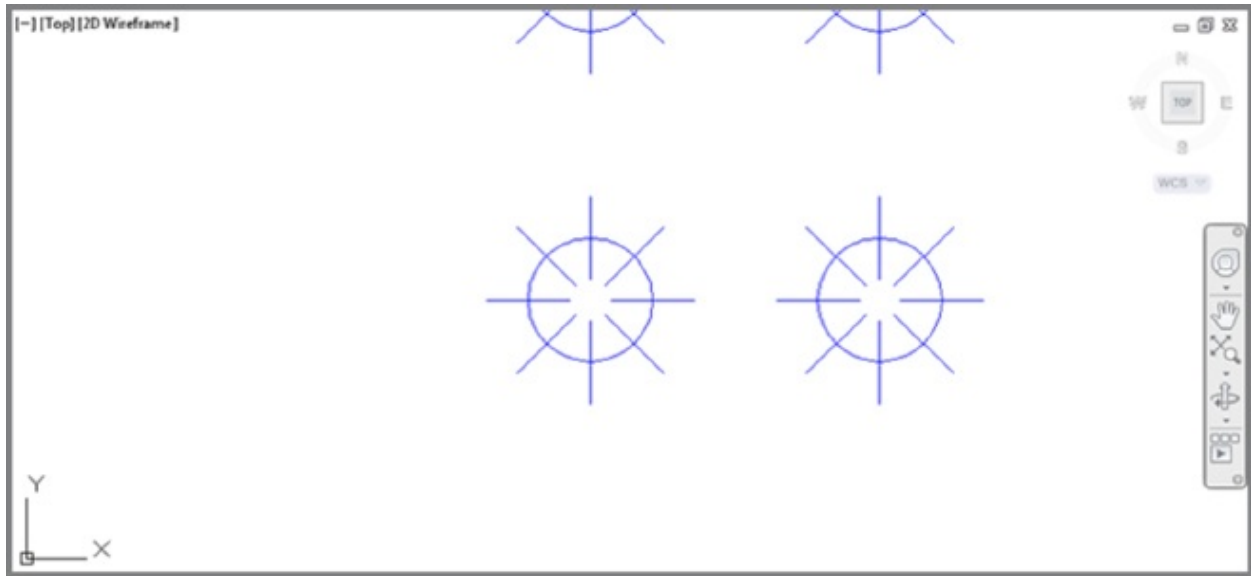

FIGURE 6.7 The burners arrayed
10. The array appears in the drawing, but a few of the array elements are off the top of the screen, as shown in Figure 6.7. In the next section, “Fine-Tuning Your View,” you’ll learn about the Pan tool, which will enable you to adjust the view so that the array is centered in the drawing area.
Back in Figure 6.7, you may have noticed that parts of the burners don't appear on the display. To move the view over so that you can see all the burners, use the Pan command. Pan is similar to Zoom in that it changes your view of the drawing. However, Pan doesn't alter the magnification of the view the way Zoom does. Rather, Pan maintains the current magnification while moving your view across the drawing, just as you would pan a camera across a landscape.